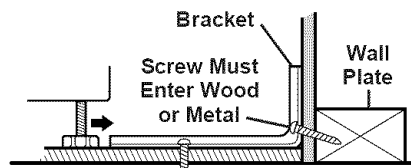

Fig. 2
2. **Wall:** Drill an angled  $\frac{1}{8}$ " pilot hole (as shown in **Fig. 2**) in the center of each pre-marked wall hole position (a nail or awl may be used if a drill is not available).
- B. Mount the **ANTI-TIP** bracket with the 4 screws provided as illustrated in **Fig. 2**.